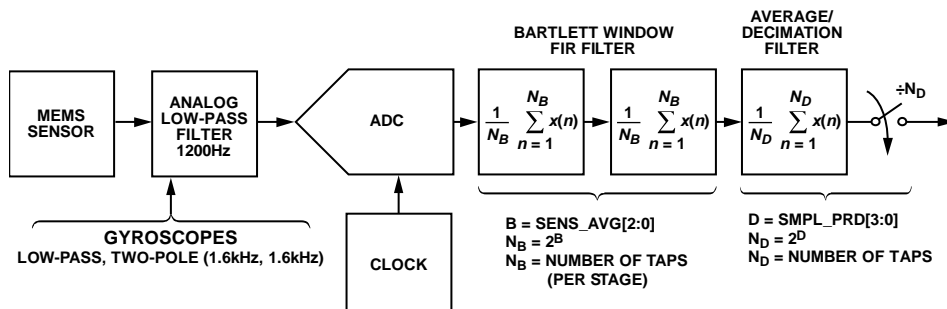

Figure 19. Signal Processing Diagram
The GYRO\_OUT2 register (see Table 10) captures the bit growth associated with the decimation filter (see Figure 19) using an MSB justified format. The bit growth starts with the MSB (GYRO\_OUT2[15]), is equal to the decimation rate setting in SMPL\_PRD[3:0] (see Table 17), and grows in the LSB direction as the decimation rate increases.
Figure 19 provides a signal processing diagram that describes all of the user-configurable options, which influence sample rate and the frequency response. Using the factory default settings for the SMPL\_PRD and SENS\_AVG registers, the effective sensor bandwidth is 360 Hz.
[3:0]	Decimation setting (D), see Figure 19
response (see Figure 19). For example, set SENS\_AVG[2:0] = 100 (DIN = 0xB804) to set each stage to 16 taps. When used with the default sample rate of 2429 SPS (no decimation), this reduces the band-width of the digital filter to approximately 49 Hz. The minimum setting for this filter is two taps per stage (SENS\_AVG[2:0] ≥ 001).